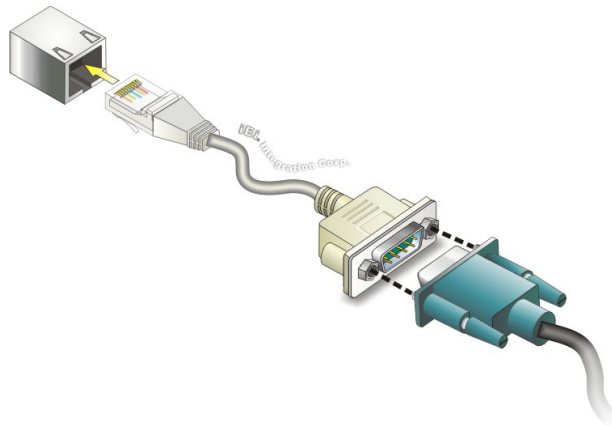

Figure 3-20: Serial Device Connector
Step 7: Insert the serial connector. Insert the DB-9 connector of a serial device into the DB-9 connector on the cable. See **Figure 3-20**.